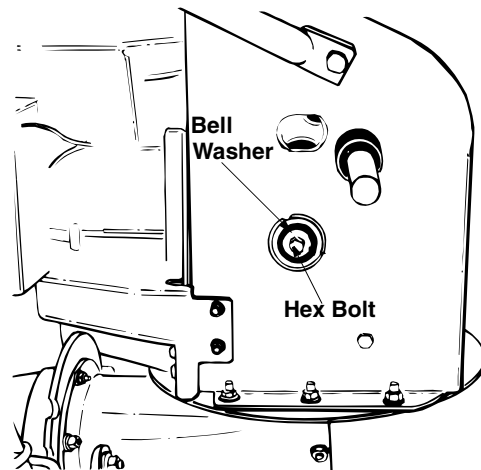

Figure 29
- Using a 7/8" wrench to hold the shaft, loosen, but do not completely remove, the hex bolt and bell washer from the left end of the shaft. See Figure 29.